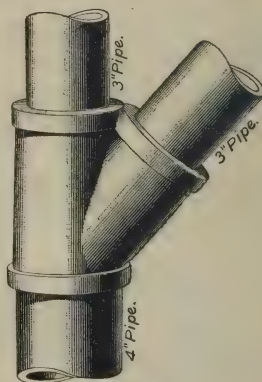

FIG. 17
**29.** An angle tee, or Y branch, is a fitting having an outlet that branches off at an angle of  $45^\circ$  to the axis of the main run. It is designated, or read, the same as a tee, except that the kind of outlet is designated by calling it a Y. Thus, the fitting shown in Fig. 17 is called a  $4'' \times 3'' \times 3''$  reducing Y branch. These fittings are kept in stock in straight sizes, that is, with all outlets the same size; the reducing fittings must be made to order to suit